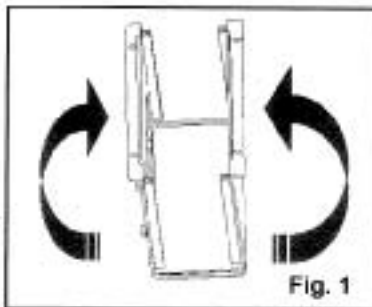

Fig. 1
1) Fold both sides of the Rain Hood 90° as so the flanges are facing outward. Fig. 1